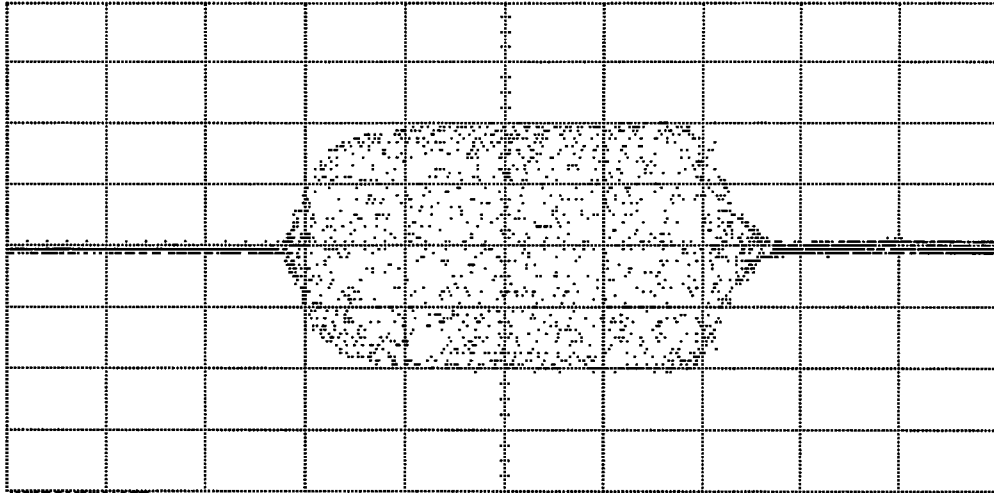

Figure 3-18. Pulse Width Measurement
2. Use the DELAY function on the oscilloscope to position the waveform to place the median of the rising edge on a vertical graticule. Refer to Figure 3-18.
6. Use the DELAY function on the oscilloscope to position the waveform to place the median of the rising edge on a vertical graticule. Refer to Figure 3-18.